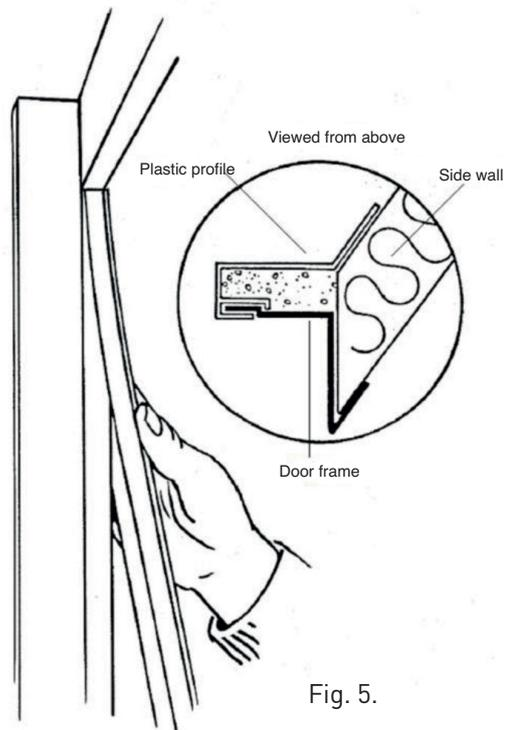

Fig. 5.
6. Fit the long plastic profile with insulation into the groove in the door frame, and push it into place so that the lip lies against the side wall on both sides (Fig. 5).